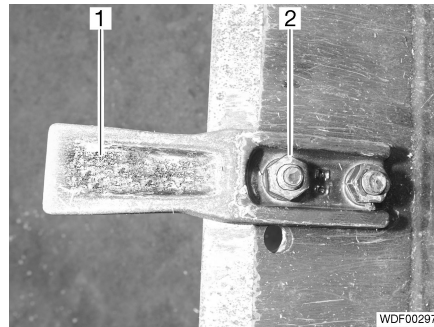

Fig. 592 Digging tooth attachment
- Unscrew the 2 nuts (Fig. 592,2).
- Remove the digging tooth (Fig. 592,1).
- Screw the 2 nuts (Fig. 592,2) with spring lock washers onto the bolts and tighten.